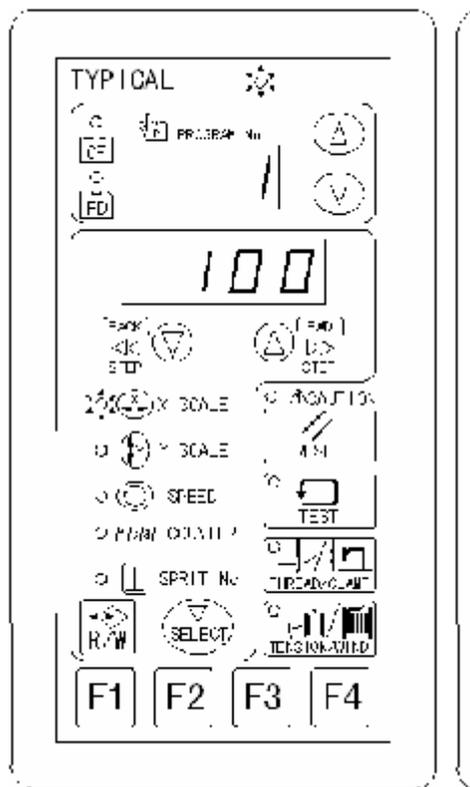
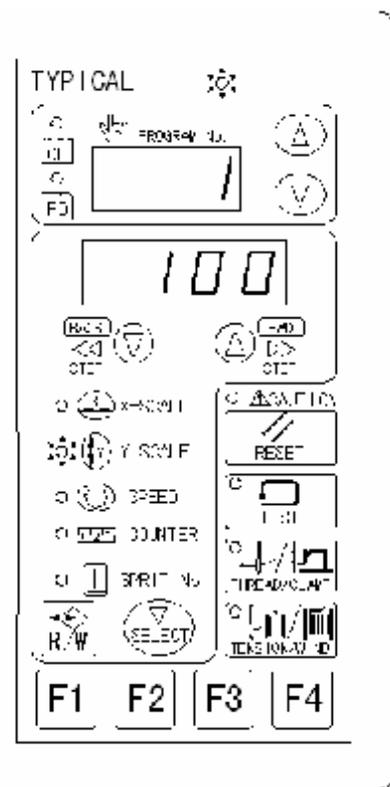

Fig. 5-3
Fig. 5-4
1. In the sewing speed set-up interface, press  key to switch to the X (horizontal) scale display interface, the  X-SCALE indicator light is on (as shown in Fig. 5-3); press  key to switch to the Y (vertical) scale display interface, the  Y-SCALE indicator light is on (as shown in Fig. 5-4). The pattern number [1] is displayed on the PROGRAM No. display area, default scale [100] is displayed on the menu display area.